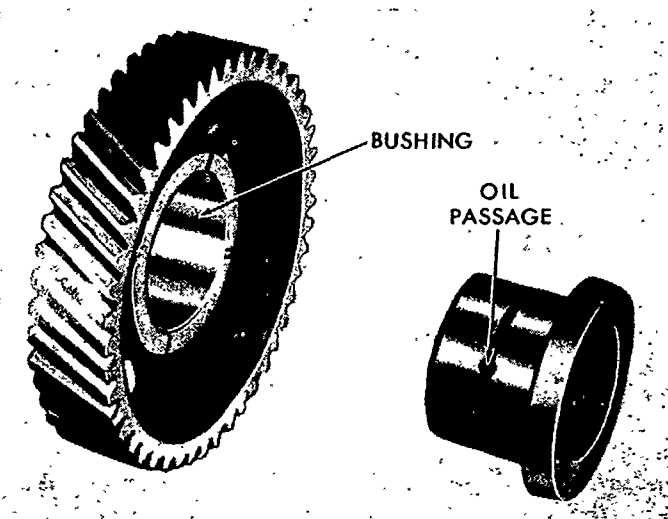

Figure 32
3. Check the adapter oil passage, Figure 32, to be sure that it is clear.
4. Inspect the camshaft drive gear bushing, Figure 32, for wear, nicks or burrs, and install a new gear if any of these conditions exist.